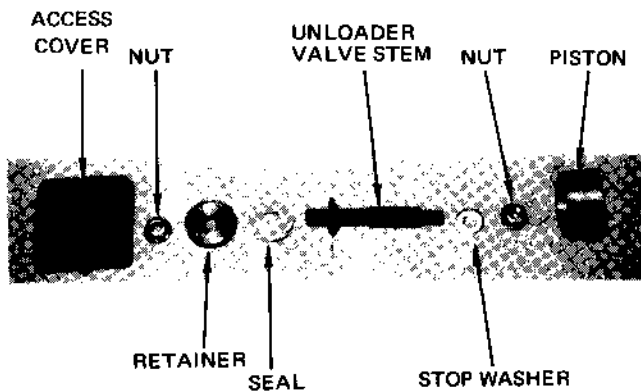

Figure 24
8. Disassemble the unloader valve retainer and seal from the valve stem. Two lands are provided on the valve stem for the purpose of removing the lock nut. (Figure 23). Use an open end wrench on the slots. DO NOT USE A VISE GRIP OR SIMILAR TOOL which could mar the close tolerance surfaces of the valve. Figure 24 illustrates the dis-assembled unloader valve assembly.
2. Check the seal and retainer for wear (Figure 24). Replace if necessary.